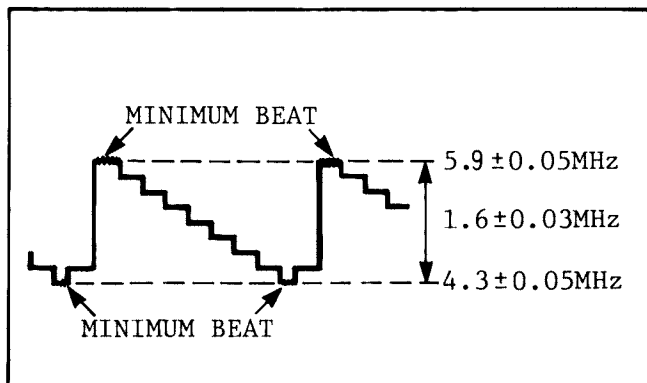

Fig. 2-5-6. Y. DEVIATION
7. Adjust VC1 (Y FREQ) and VR2 (Y DEV) so that the sync tip frequency is $4.3\text{MHz} \pm 0.05\text{MHz}$, white peak frequency is $5.9\text{MHz} \pm 0.05\text{MHz}$ and the deviation is $1.6\text{MHz} \pm 0.03\text{MHz}$, as shown in Fig. 2-5-6.